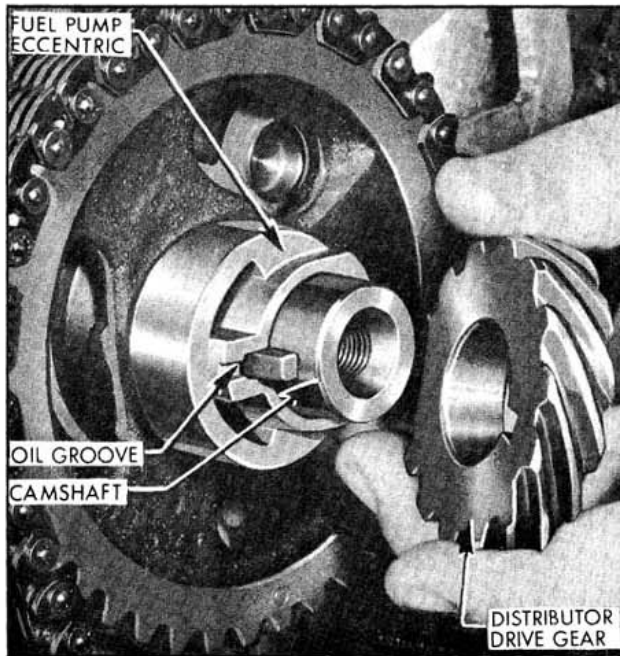

Fig. 3-22 Fuel Pump Eccentric
5. Slide fuel pump eccentric on camshaft and key with oil groove forward. See Fig. 3-22.
6. Install distributor drive gear. See Fig. 3-22.